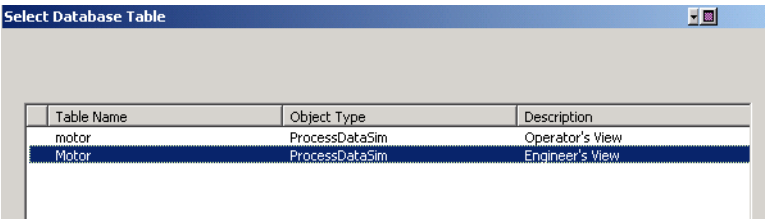

Figure 383. Adding a Table
1. Click **Add Tables**. This displays a dialog which lists all existing Database Table Definition aspects, Figure 383. If the list contains any tables that have already been added to this database, those tables will be marked with a dot (.). Also tables created for object instances rather than object types are indicated by the **(Instance)** label in the Object Type column.